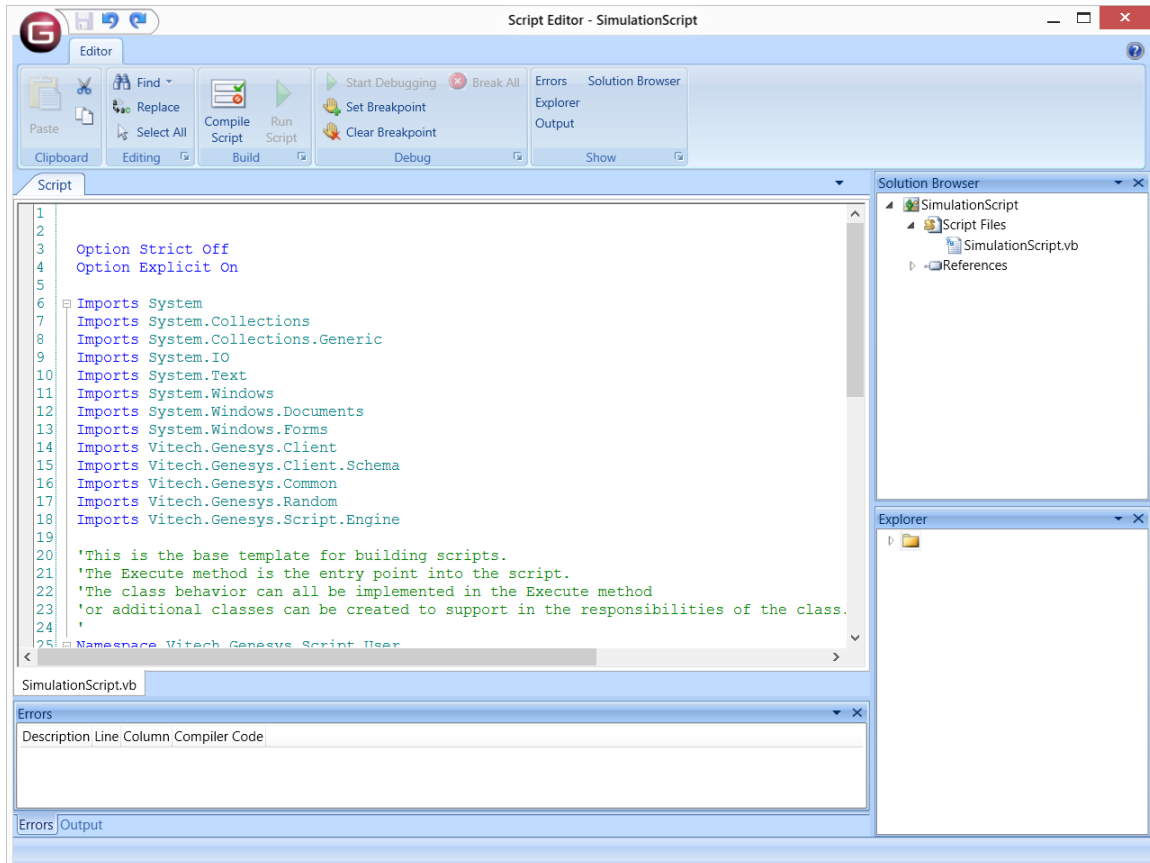

Figure 17 Script Editor Window
- Select the **Script** option to create a Microsoft Visual Basic script to determine the attribute value. The Script Editor Window as shown in Figure 17. GENESYS will execute the script at the start of each execution of the **Function** once the necessary **Resources** have been acquired and triggers processed. More information on scripting is provided in Section 6.
The script is entered/modified by clicking the **Edit** button next to the attribute in the **Properties** window. The **Edit** button opens a Script Editor window (Figure 17) where the script is built using Microsoft Visual Basic and the GENESYS API.